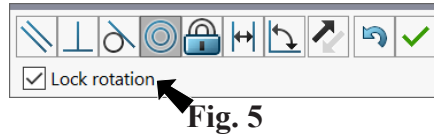

**Fig. 3**
- Step 2. Click **side face of Rim** and **side face of Tire**, **Fig. 3**.